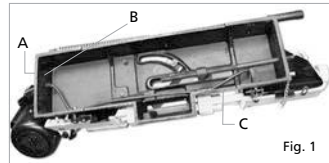

Fig. 1
bow (Figure 1). Place it on a piece of cardboard, or a surface that will not damage the saw.
2. Attach a cross brace to the motor side (A, Fig.1) of the bed using three hex cap bolts, six flat washers, and secure with three hex nuts.
NOTE: Tighten the nut on the end of the bed (B, Fig.1) first followed by the nuts on the sides.
4. Remove the brace (C, Fig. 1) on the opposite end of the bed and bow using a 10 mm wrench.